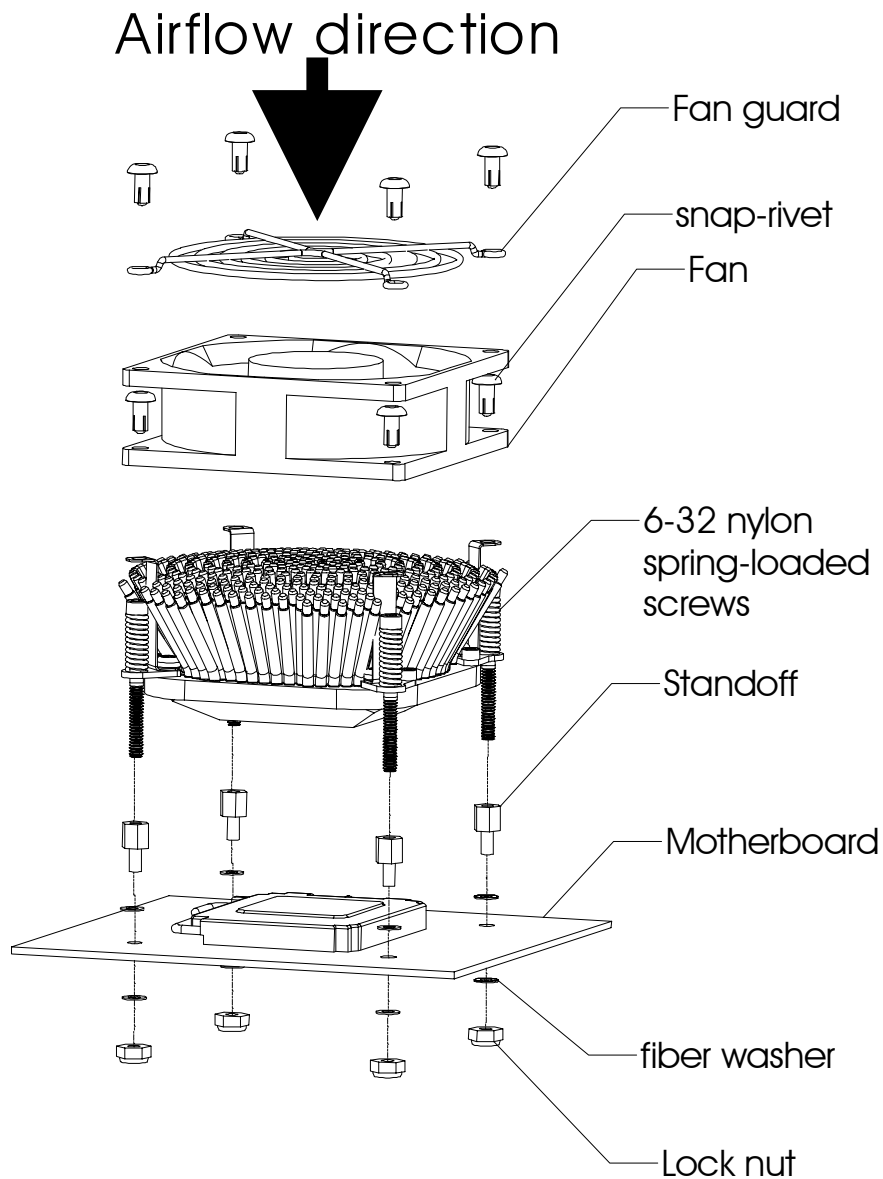

Figure 1
- b. Install the standoffs through the holes, using fiber washers and locknuts as shown in figure 1 and tighten as follows:
- Position the heatsink onto the processor as shown in figure 1, aligning the retention screws with the standoffs.